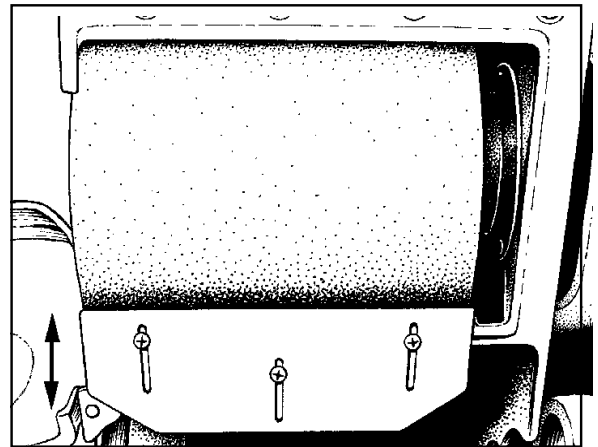

Figure 15
5. Align the dust shoe to the chassis and tighten screws. (See figure 15)